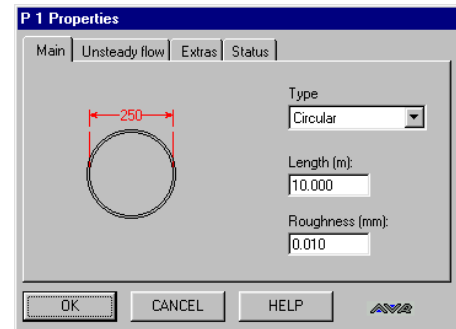

Figure 4 Pipe Main Page
- Draw a pipe on the design sheet and edit its relevant properties on the **Main** (Figure 4) and **Extras** pages.